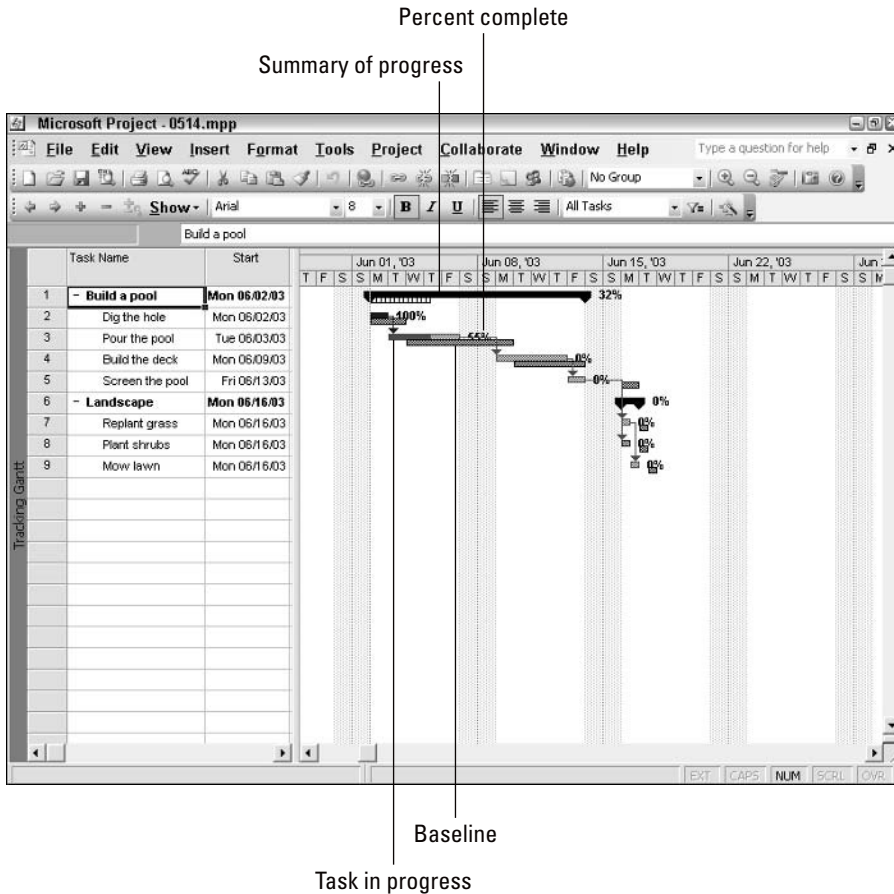

Figure 11-9: Various task bar styles and color codes display the project's progress and variances.
- ♦ **% Complete:** This field shows the progress of various tasks in the schedule. Figure 11-9 shows that one task is complete.
You also can display the task bars by manipulating the divider between the table and chart areas to get a graphic view of progress on the project. Figure 11-9 displays the Tracking Gantt view with the Schedule table. The Tracking Gantt displays various styles of task bars to indicate progress on tasks in the project. At the top of the Gantt Chart, you see the summary task for the project, and below it, you see a black-and-white hatched bar. That bar represents progress on the summary task. The noncritical tasks are shown in blue, and critical tasks are in red.